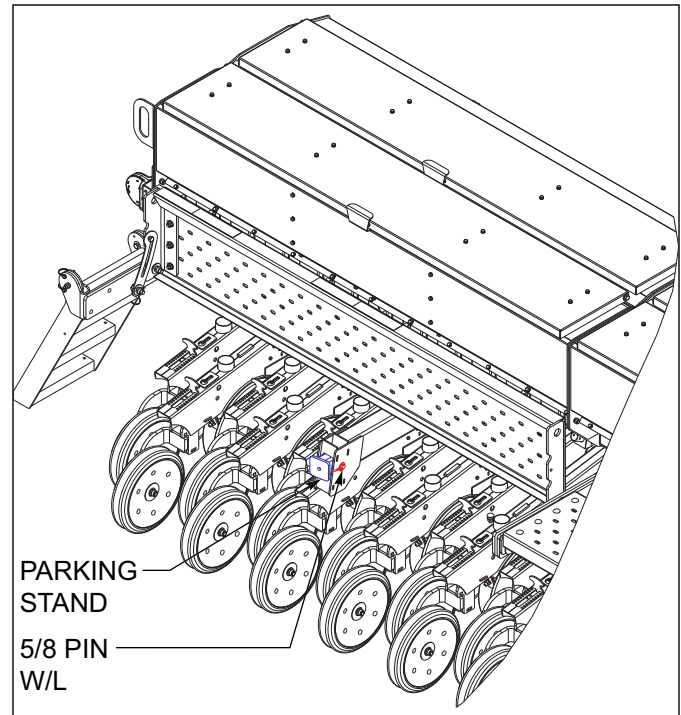
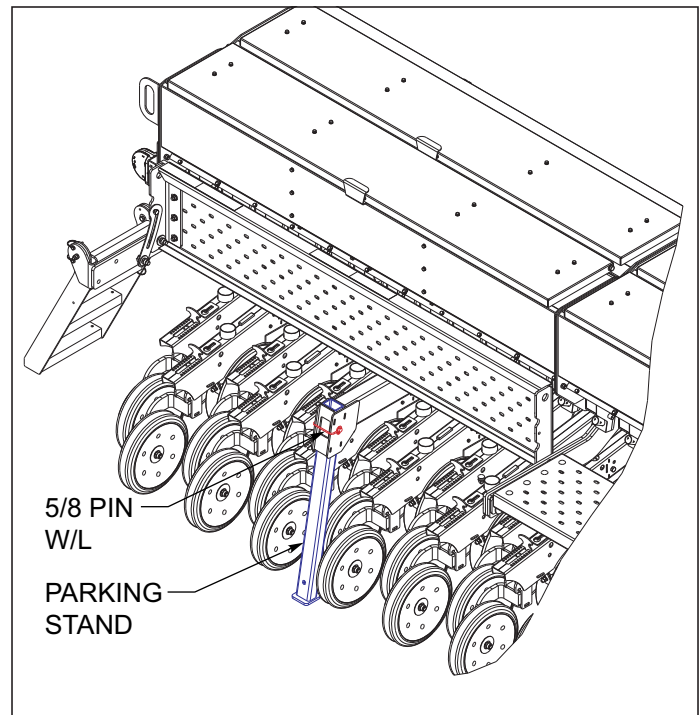

Figure 4-9: Parking Stand Location During Transport/Planting
Figure 4-10: Parking Stand Location During Storage
- c. Remove the parking stands from transport position and install in parking position *See Figures 4-9 and See Figure 4-10.* If storing on soft ground, place board/plate under the stands for a wider footprint.